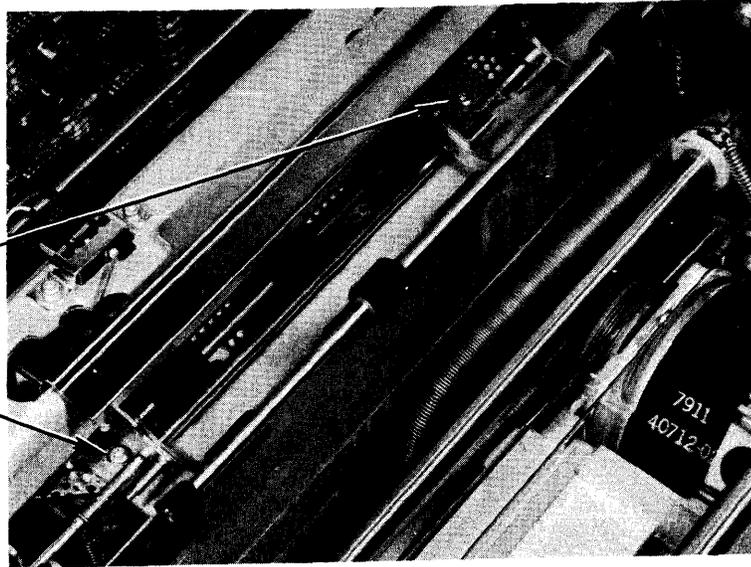

Figure 5-43 POWER SUPPLY MOUNTING SCREWS
7. From top side of printer, remove 4 screws holding the power supply assembly to the printer main frame. (See Figure 5-43.)